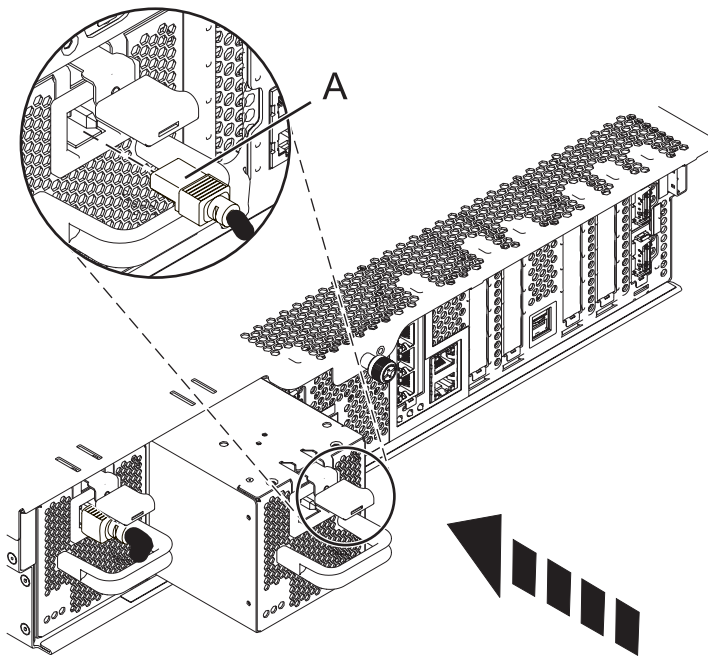

Figure 1. Installing a power supply with the power turned off
5. Push the power supply into place until the locking latch snaps into place as shown in Figure 1.